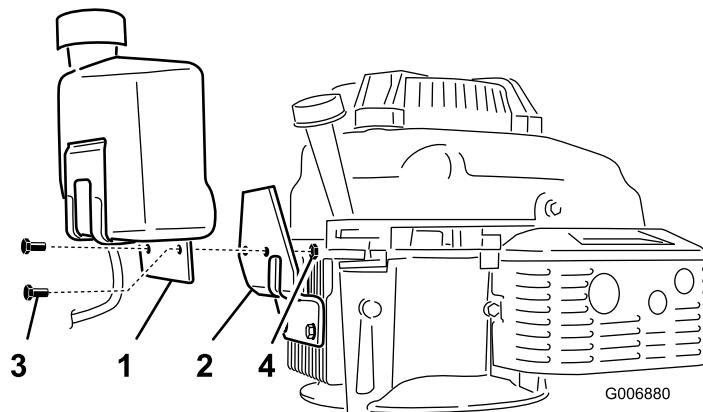

Figure 4
1. Align the holes in the fuel tank bracket with the holes in the adapter bracket (Figure 4).
2. Install the fuel tank and bracket to the adapter bracket with the 2 bolts (1/4 x 3/4 inch) and the 2 locknuts (1/4 inch) in the loose parts bag (Figure 4).